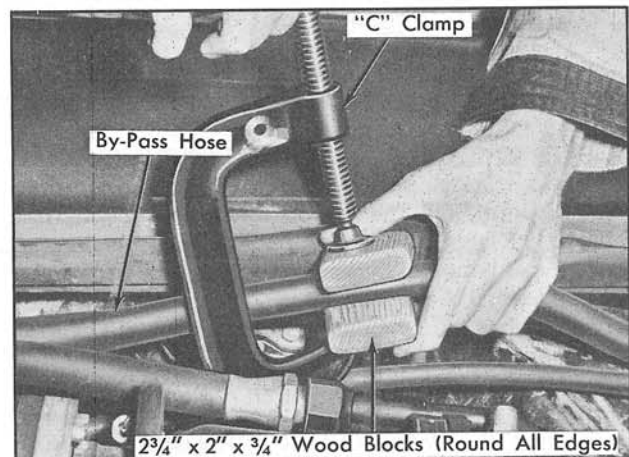

Fig. 13-3 Clamping By-Pass Hose
2. IF THE EVAPORATOR PRESSURE IS NORMAL, clamp the by-pass hose closed with two small blocks of wood with smooth edges and a "C" clamp or a pair of large vise-grip pliers, as shown in Fig. 13-3. WEAR GOGGLES.